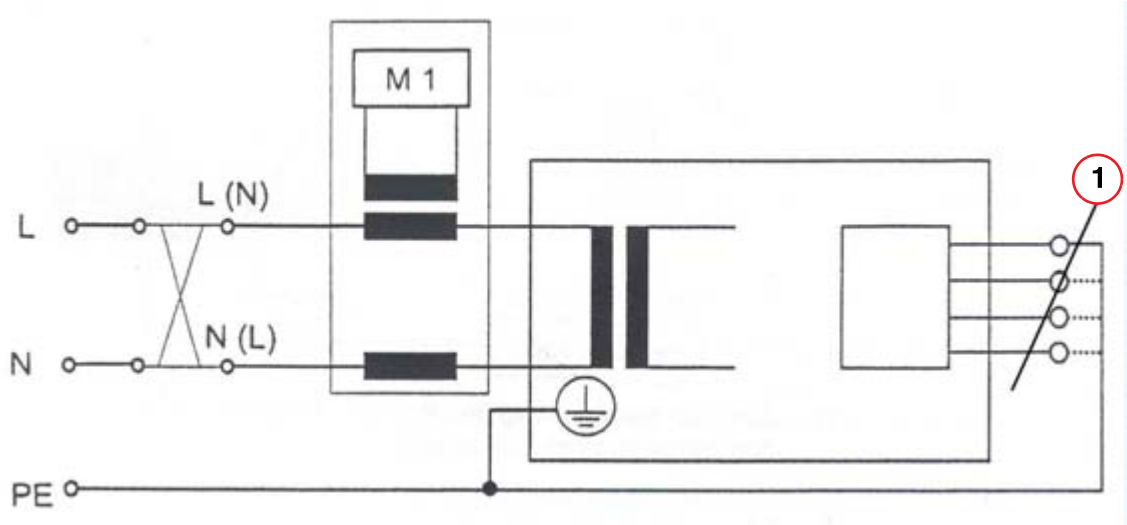
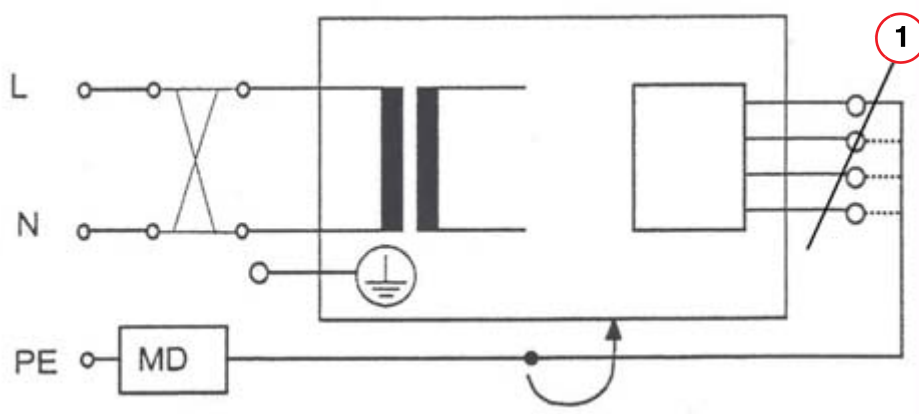

Fig. 2: Measuring circuit for measuring the system leakage current according to the differential current method
Fig. 3: Measuring circuit for the direct measurement of the system leakage current
(Check the comment "values invalid" and confirm with name, date, and signature). The equivalent leakage current measurement must be repeated. Perform the measurement according to DIN VDE 0751, part 1 (see ARTD, part 2), and record the determined value as the initial measured value. This value must not exceed the maximum value of 2 mA for equivalent leakage currents for devices according to IEC 601 part 1/VDE 0750 part 1. The initial measured value is to be entered in the equivalent leakage current protocol (Leakage current measurement / p. 39). Comply with the measuring arrangement according to (Fig. 2 / p. 15). The system must be switched on during the measurement. When the Bender safety tester is used, this must therefore be set to manual measurement. Separate the page with the protocol from these instructions and file it in the log book, system folder.
When service or repair work is performed on the primary power supply circuit (e.g., repairs to the power-on circuit or replacement of the line filter), the equivalent leakage current measurement must be repeated. Comply with the measuring arrangement according to (Fig. 2 / p. 15). The system must be switched on during measurement. When the Bender safety tester is used, this must therefore be set to manual measurement. The values measured in the repeat measurement may not exceed the threshold value of 2 mA as specified in VDE 0751, Part 1 (see also ARTD, part 2). In addition, they may not exceed the initial measured value by more than 50%. The system must be repaired if the limit is exceeded. Document the measured value in the equivalent leakage current protocol.
- Perform measurement configuration according to \(Fig. 2 / p. 15\). Application part \(1/Fig. 2 / p. 15\) is not available in ARCADIS Avantic.
- Measurement configuration according to \(Fig. 2 / p. 15\) application part \(1/Fig. 3 / p. 16\) is not available in ARCADIS Avantic.